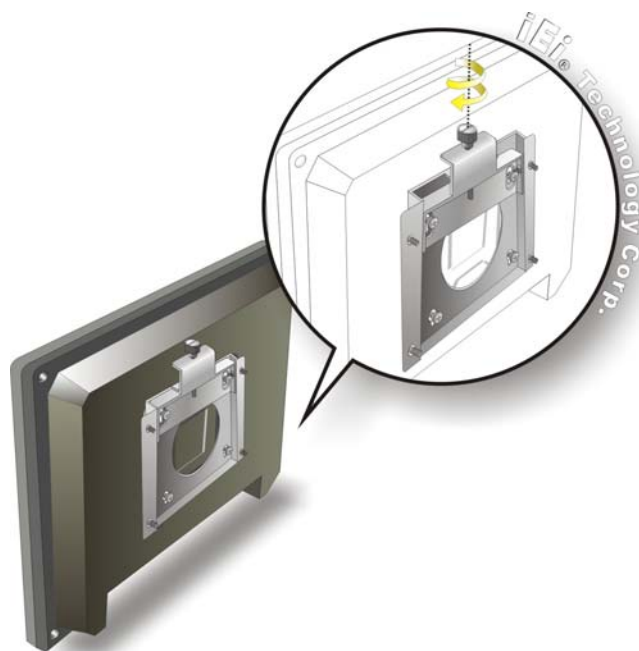

Figure 2-12: Secure the Panel PC
Step 9: Secure the panel PC by fastening the retention screw of the wall-mounting bracket. (Figure 2-12).